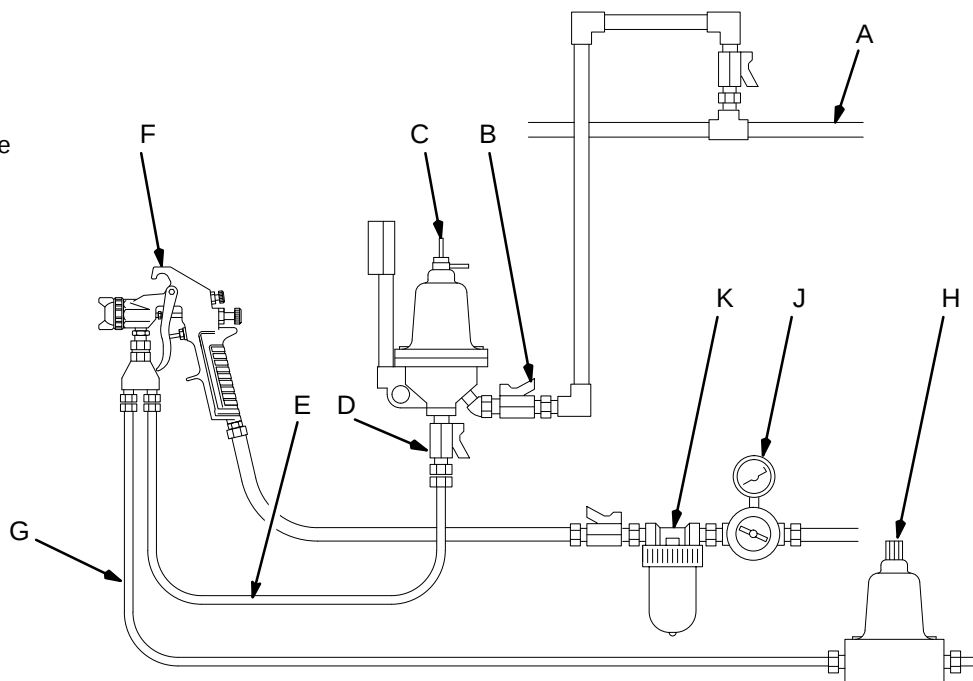

Fig 1
1. Determine the placement of the fluid regulator in your system. install it as close as possible to the spray gun/dispersing valve (F) for easy operator control. See Fig 1.
2. Install a ball valve at the inlet (B) and outlet (D) of the regulator (C) to isolate the regulator to remove it for cleaning.
2. Start the pump and open the fluid ball valve (B) to admit fluid to the regulator inlet. See Fig 1.
2. Shut off the supply pump and relieve fluid pressure in the system by opening the back pressure valve (H) or other bypass valve. See Fig 1.